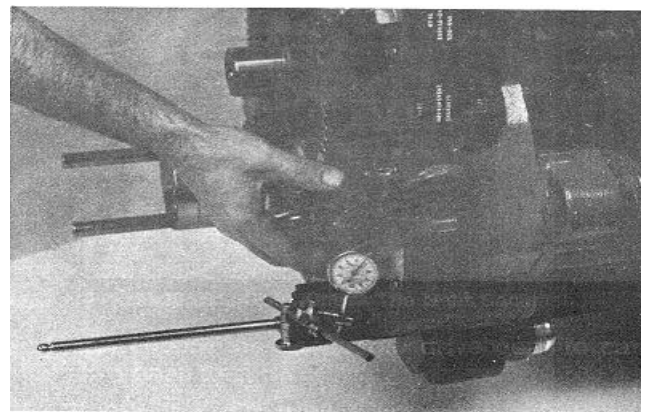

Fig. 14-37 (Ni14264). Check The Backlash Of The Pump Gear.
4. Check the backlash of the pump gear, Fig. 14-37. Use the same procedure that you used to check the backlash of the accessory drive gear.